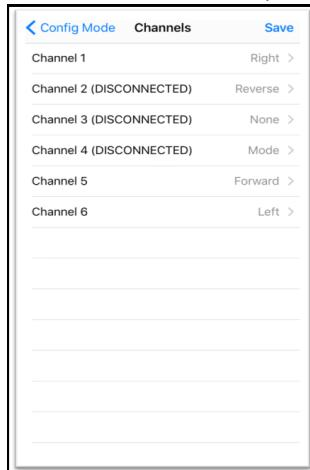

Figure 4
1. Select the *Channels* tab under the *Config Mode* option in the App (*Figure 4*).